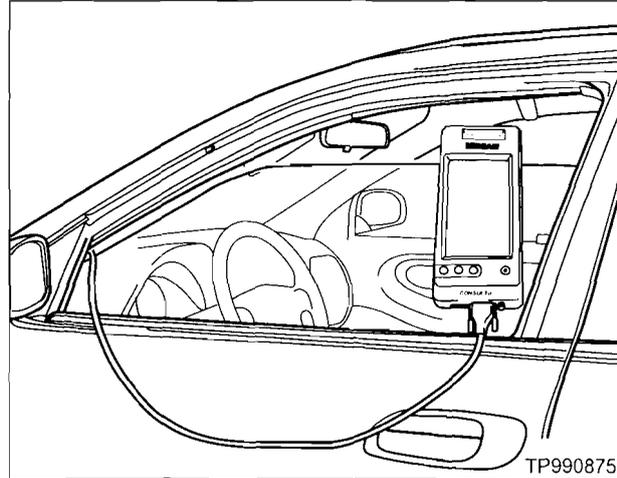

Figure 12
16. Roll down the driver's window part way, exit the vehicle, close the door, and hang the CONSULT II unit on the outside of the window (see Figure 12).